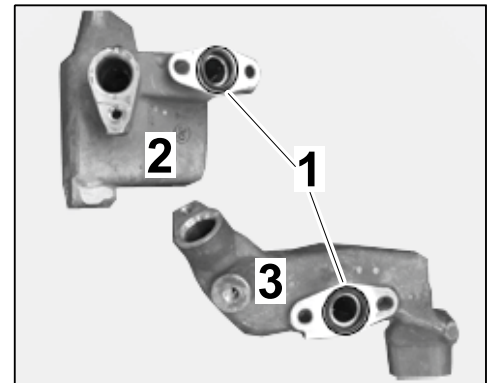

Figure 25
3.3.4 Replace O-ring, 15 x 2.5 (1 x) on the turbocharger oil tank (cyl. 1–3/cyl. 4–6) with a new O-ring (⇒ *Figure 25*).